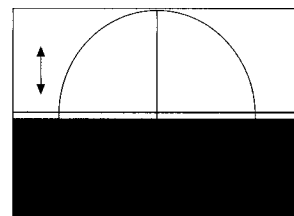

Fig. 1
- b) Adjust horizontal line of the cross figure to coincide with the edge of the black area in the center of TRC. (fig. 1).